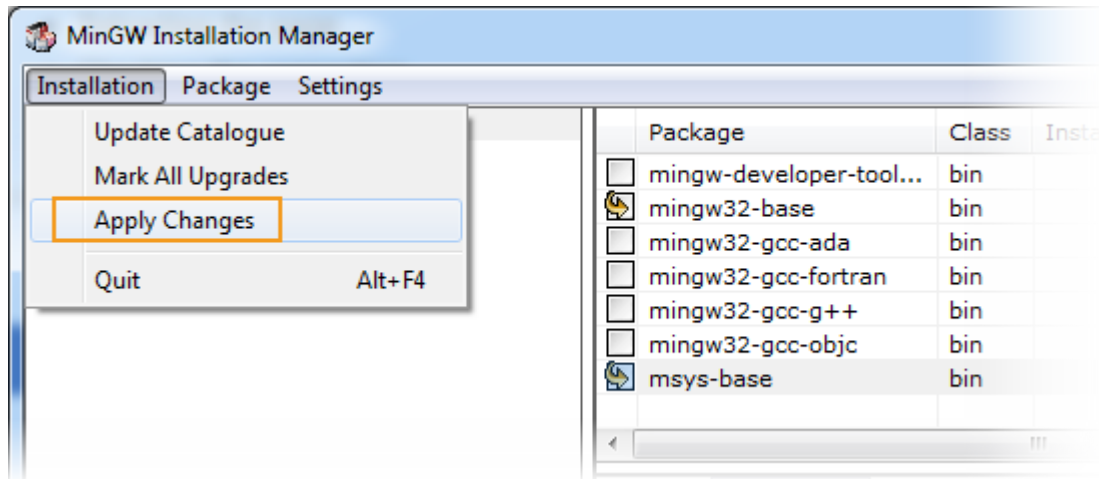

Figure 5. A basic MinGW installation
| Figure 5. A basic MinGW installation | 6 |
- 6) Click **Apply Changes** from the **Installation** menu (see Figure 5).